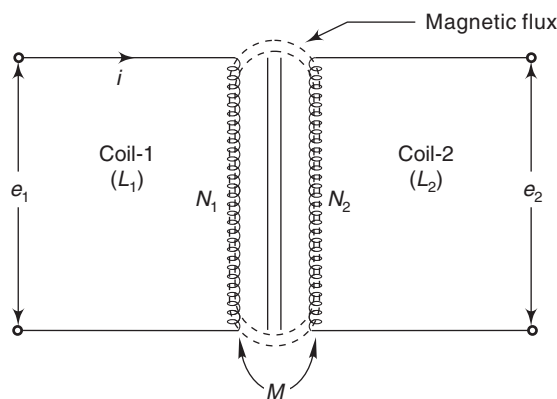

Fig. 2.34 Mutually coupled coils
When two coils are placed very near to each other as shown in Fig. 2.34, the changing magnetic flux of one coil, linking with the other, produces an induced e.m.f. in the other coil. These two coils are then set to have mutual inductance (M), which is expressed in henries (H).